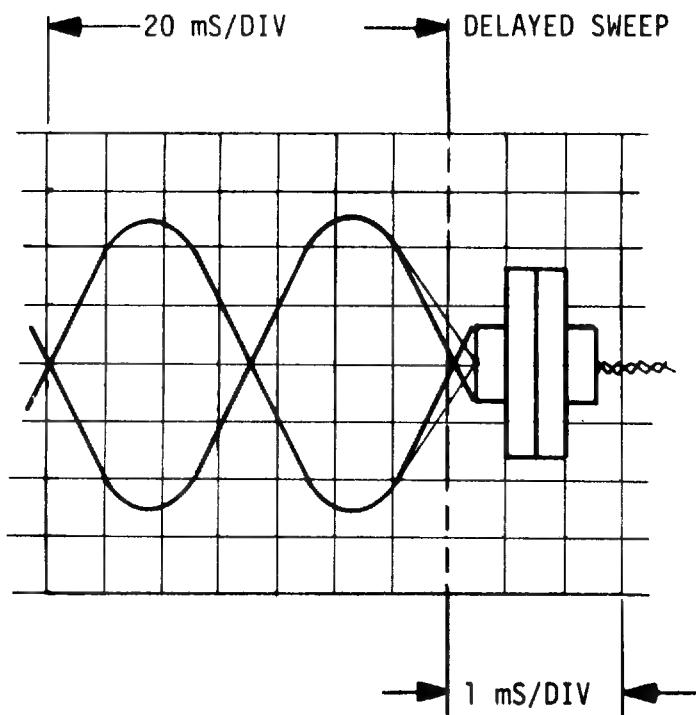

Figure 2-7C. Cat Eyes and Head Azimuth Display
- g. Adjust assembly for correct head azimuth. See Figure 2-7C. Head azimuth is within acceptable tolerance when the data bursts seen on the delayed time base indicate the head is within \pm 12 minutes of true position. However, head azimuth interacts with machine azimuth; therefore, for head sector drives best results are obtained by setting head azimuth as close as feasible. This gives best tolerance of parameter variation. If necessary, to meet machine azimuth timing by cancelling tolerances, head azimuth may be relaxed to \pm 12 minutes of arc.